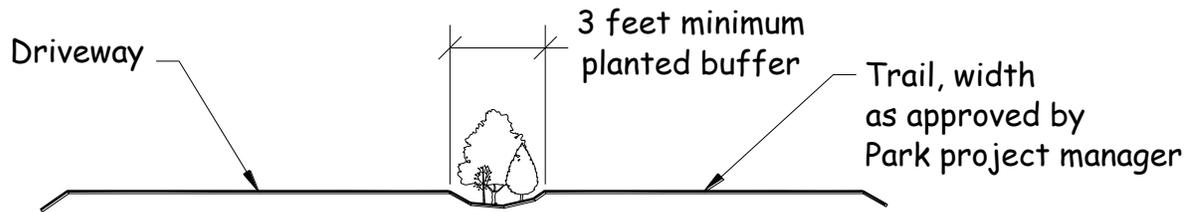

Figure 1 - Trail with landscape buffer
1. The minimum requirements for shared trail access shall be as shown in Figure 1, 2 and 3 of this standard. Reference other Park design standards for typical details that may also apply.